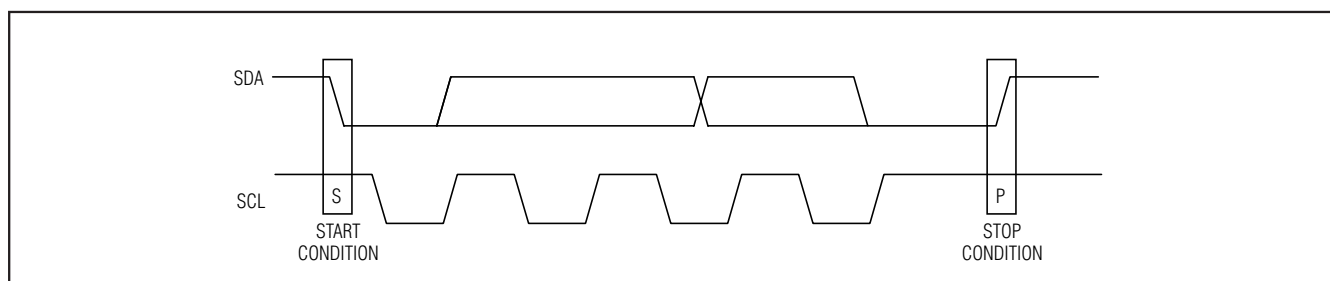
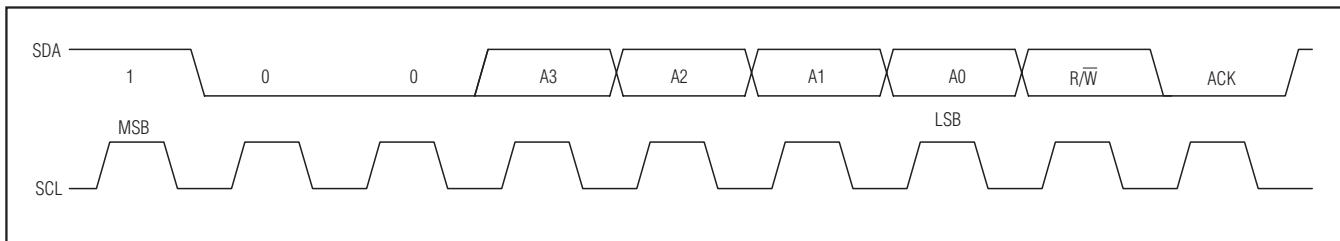

Figure 3. Start and Stop Conditions
Figure 6. Slave Address
Each transmission consists of a START condition (Figure 3) sent by a master, followed by the MAX7300 7-bit slave address plus R/W bit (Figure 6), a register address byte, one or more data bytes, and finally a STOP condition (Figure 3).
Both SCL and SDA remain high when the interface is not busy. A master signals the beginning of a transmission with a START (S) condition by transitioning SDA from high to low while SCL is high. When the master has finished communicating with the slave, it issues a STOP (P) condition by transitioning SDA from low to high while SCL is high. The bus is then free for another transmission (Figure 3).
The MAX7300 has a 7-bit-long slave address (Figure 6). The eighth bit following the 7-bit slave address is the $\overline{R}/\overline{W}$ bit. It is low for a write command and high for a read command.